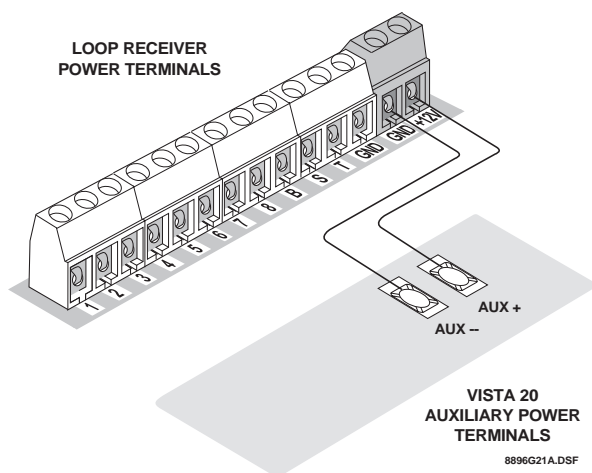

Figure 1. Powering the Loop Receiver.
2. Power the receiver by connecting it to the panel's auxiliary power supply as shown in Figure 1.